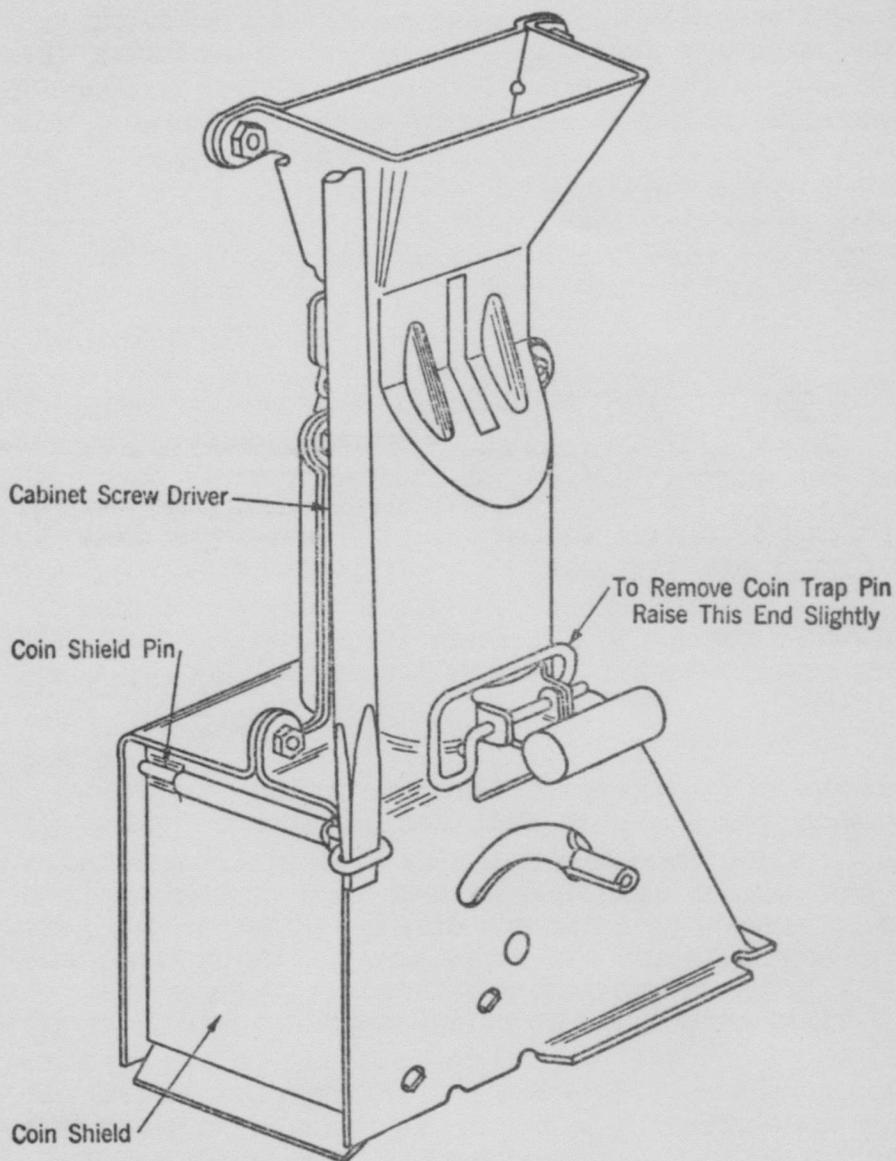

Fig. 8
- (d) Remove coin trap pin. See Fig. 8. If equipped with pin flattened on both ends, cut off left end of pin with diagonal pliers and remove pin. Push trap in hopper and allow it to drop into coin return.
(j) Attach cleaned or new trap to string and draw into position. Insert coin trap pin P-247410 as shown in Fig. 8.
Fig. 8. Turn the screw-driver in a clockwise direction just sufficiently to release the pin from the hole in the hopper. If equipped with coin shield pin flattened on both ends pull the pin forward and clip off the pin as close to the front of the hopper as possible. Push the pin to the rear as far as possible, swing the shield out to the left and clip off the pin between the shield and the rear of the hopper which will permit the shield to be removed. Clip off the pin as short as possible, bend the remaining short length and work it out of the hole so that it falls down the outside of the hopper.
(g) Assemble the pin P247411 on the coin shield so that with the straight end of the pin in the hole at the rear of the hopper the bent over section of the shield is toward the inside of the hopper, see Fig. 8. Snap the hooked end of the pin in place by pressing on the shield directly over the middle of the pin.